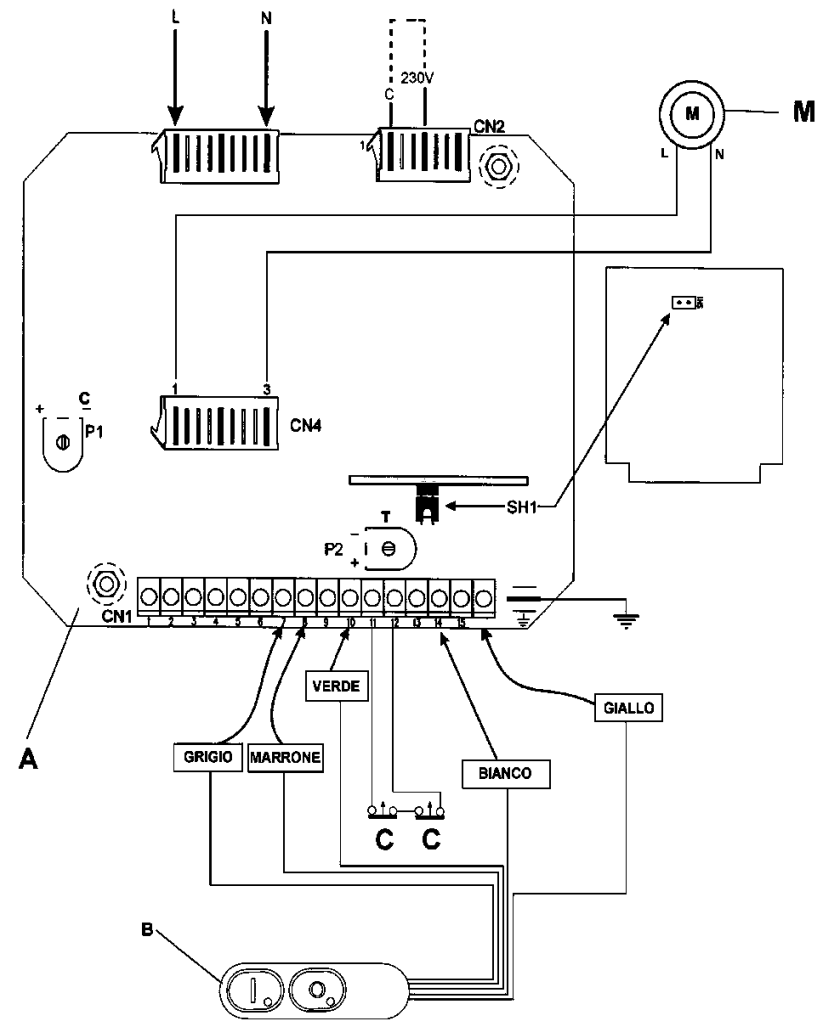

Fig.2.6.2
2.6.2 Single-phase wiring diagram at 230V (Fig. 2.6.2)